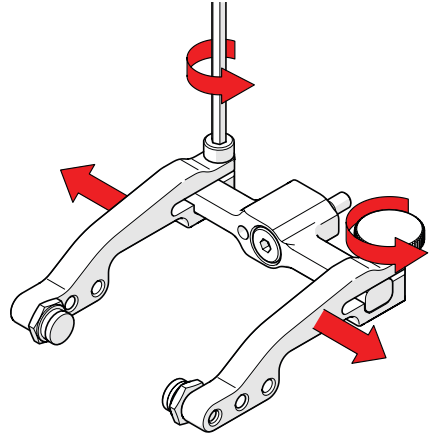

Fig. 86 - Remove arms
2. Loosen the probe holder arm adjustment knob and arm clamp screw. Slide the arms from the yoke (*Fig. 86*).